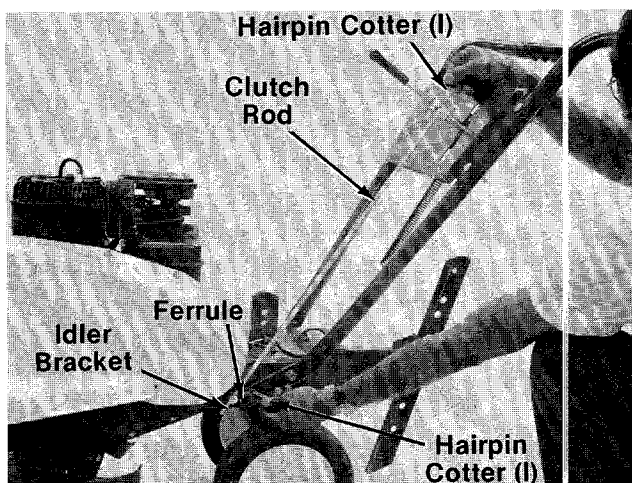

FIGURE 8.
1. Place shift lever (located on handle panel) in neutral (N) position. Place bent end of control rod into shift lever. Secure with hairpin cotter (I). See figure 8.
2. Thread ferrule (H) onto the other end of control rod so that the ferrule lines up with the hole in idler bracket. Secure with hairpin cotter (I). See figure 8.